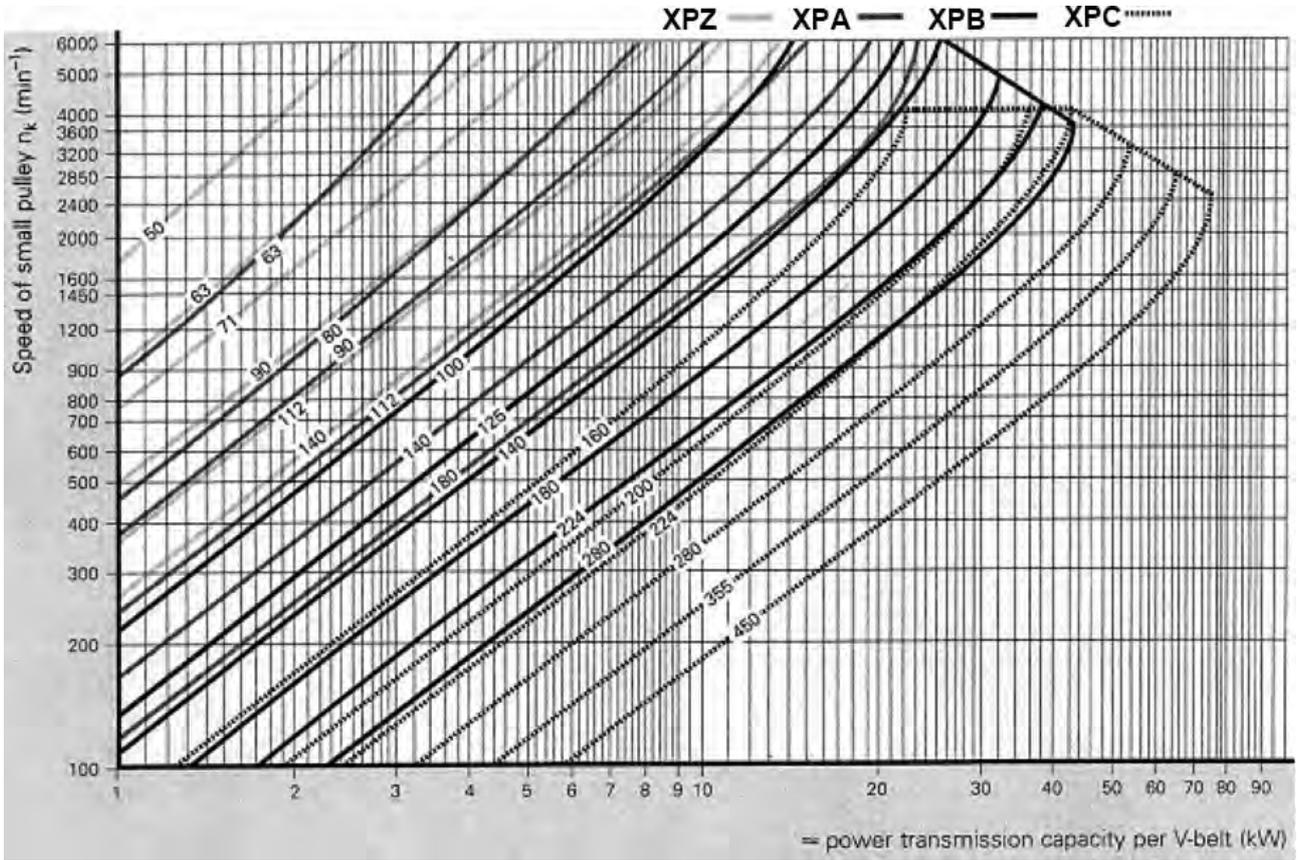
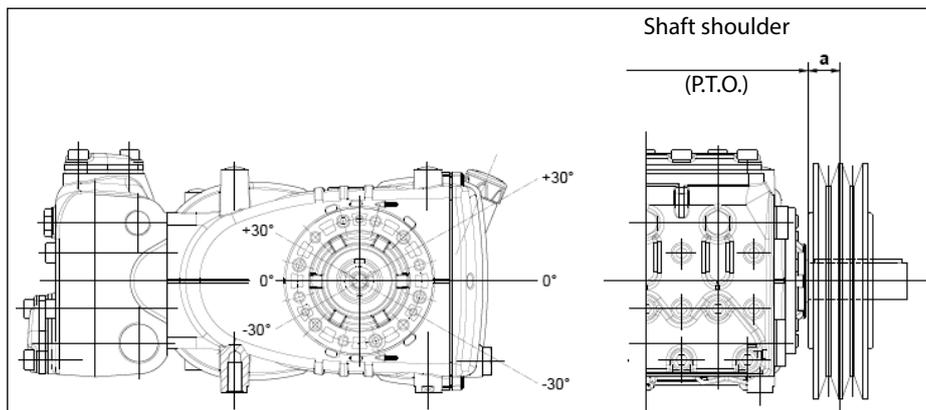

Fig. 7
Fig. 10
For these pump models, we recommend use of 3 XPB belts (16.5x13 serrated). Use an XPC profile only for long durations. Both the characteristics and transmissible power of each belt can be verified in the diagram in Fig. 7, in relation to the number of rpm normally declared by the manufacturer. Minimum duct pulley diameter (on pump shaft):  $\geq 160$  mm. The radial load on the shaft must not exceed 4500 N (value necessary for Layout definition). The transmission is considered adequate if the load is applied to a maximum distance  $a = 50$  mm from the shaft shoulder (P.T.O) as shown in Fig. 10.
- b) Use high performance belts – for example **XPB** instead of **SPB** – as a lower quantity of belts for the same transmitted power may be necessary and a consequent shorter resulting distance compared to the shaft shoulder (P.T.O.) “a” of Fig. 10.
- e) Follow the direction of the belt pull as shown in Fig. 10 for other needs, contact our **Technical or Customer Service Department**.